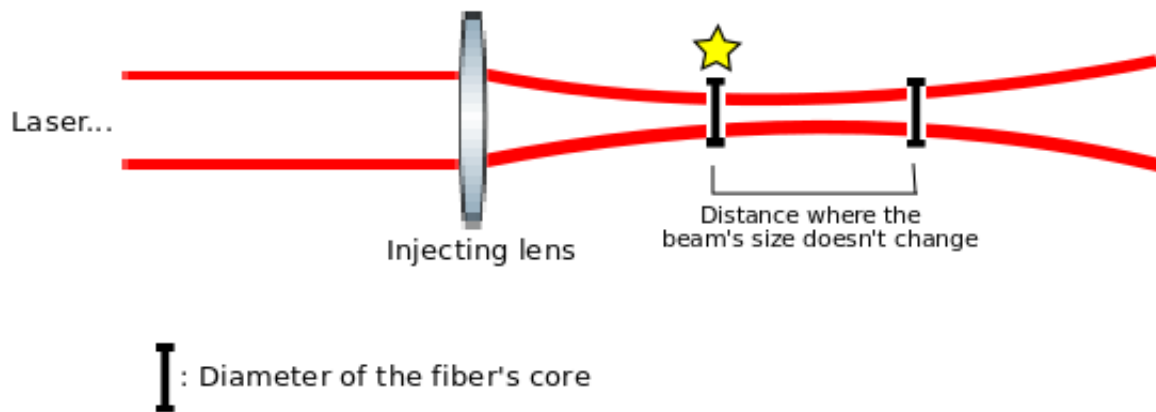

Figure 7 : Scheme of the rays' pattern after the injecting lens. The star shows the optimal position where the fiber should be placed for injection.
17. The fiber should be placed at the position where the beam' size on the sheet of paper starts to not change. (Figure 7)